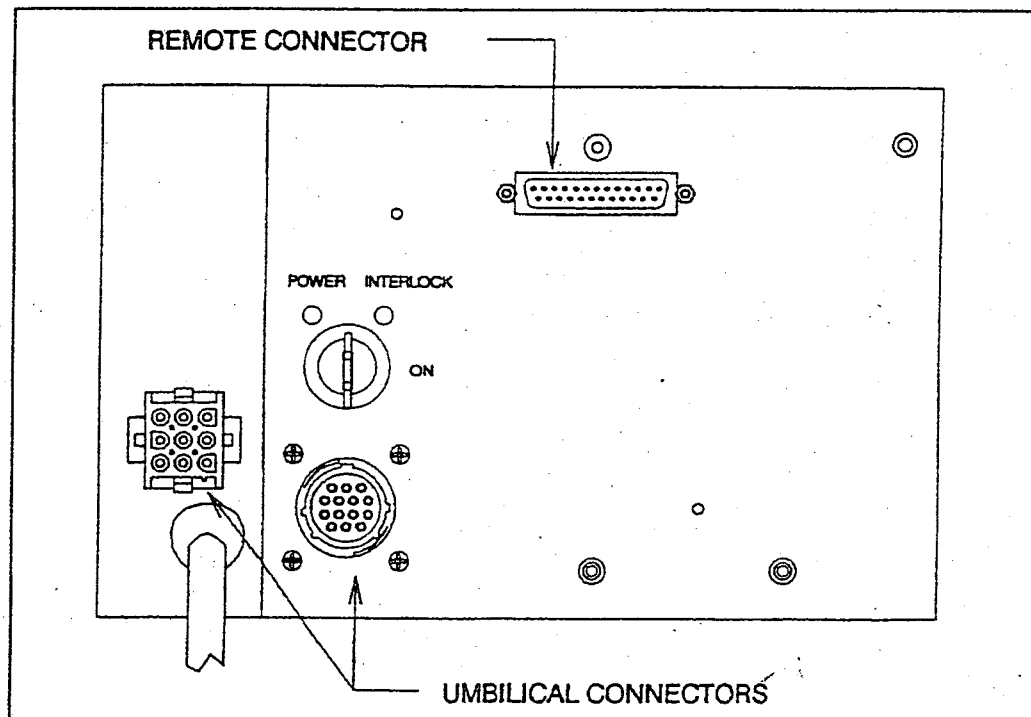

Figure 2-18. Power Supply Front Panel
- A 14-pin female connector that plugs into the bottom connector on the front of the power supply. See figure 2-18.
- A 9-pin male connector that connects to the high-voltage plug on the front of the power supply. See figure 2-18.